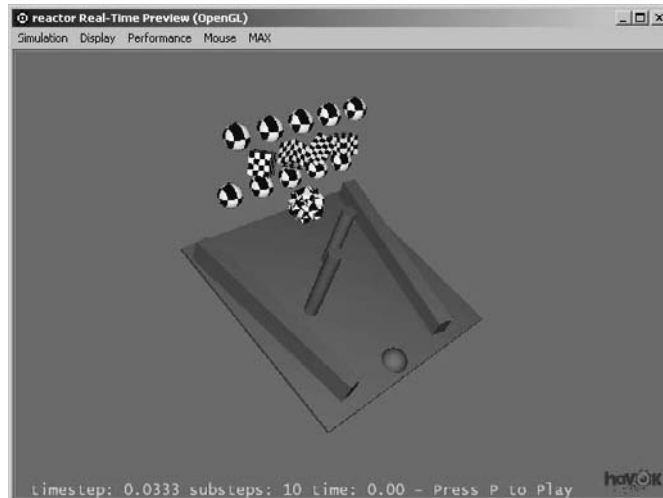

Figure 12.45
1. Click the Preview Animation button (  ) in the reactor toolbar. The reactor engine analyzes the simulation and then opens the reactor Real-Time Preview window shown in Figure 12.45.